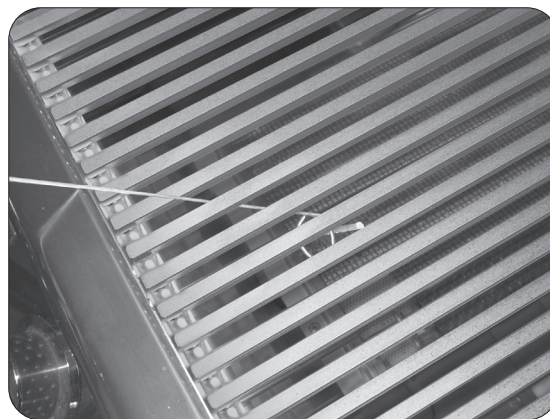

Fig. 29-2 Manual lighting
2. Insert either a burning long-barrel butane lighter, a burning long-stem match, or a burning match held by a wire extension holder through the cooking grid opening to the top of the burner (Fig. 29-2).
4. If the burner does not light within five (5) seconds of turning the control knob, **immediately depress the knob and turn the valve to OFF**. **WAIT FIVE (5) MINUTES** before repeating steps 2 through 4 of the **MANUAL LIGHTING** instructions.